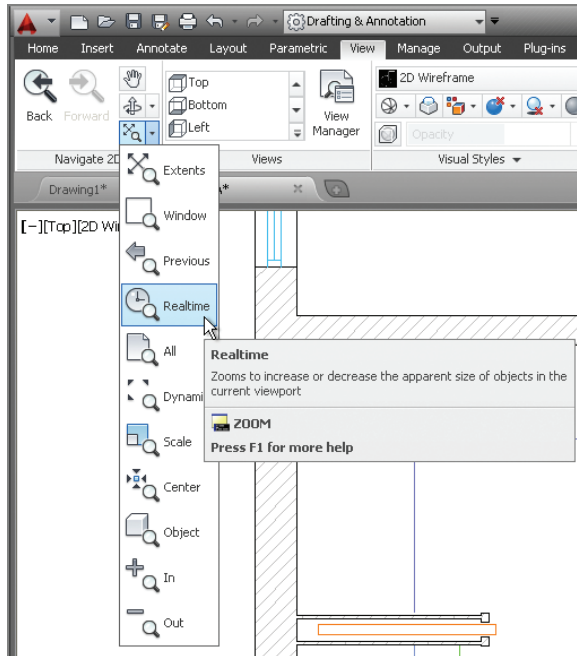

FIGURE 2.3 Zoom tools on the Navigate 2D panel of the View tab of the ribbon
5. Select the Drafting & Annotation workspace if it is not already selected, and then select the View tab in the ribbon. Click the bottom menu arrow in the Navigate 2D panel, and select Zoom Realtime (see Figure 2.3). Drag up in the document window to zoom in until the refrigerator fills the screen, and then press Esc.